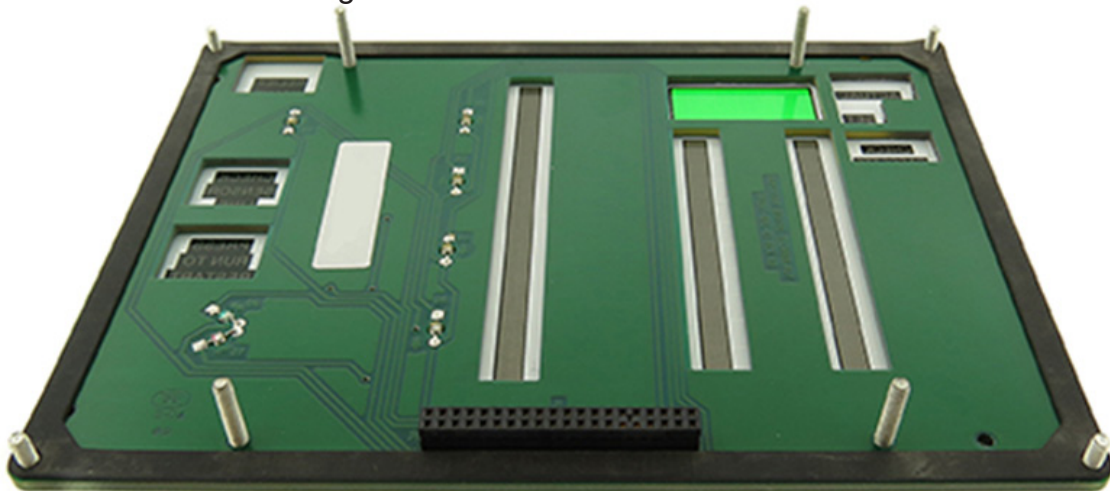

Figure 1. High reliability human-machine interface designed with a rigid circuit board.
- Incorporating a rigid printed circuit board (PCB) into the design to attach LCDs, switches, or other components as the copper and solder joints provide much more durable connections and a solid backplane for the interface. See figure 1.